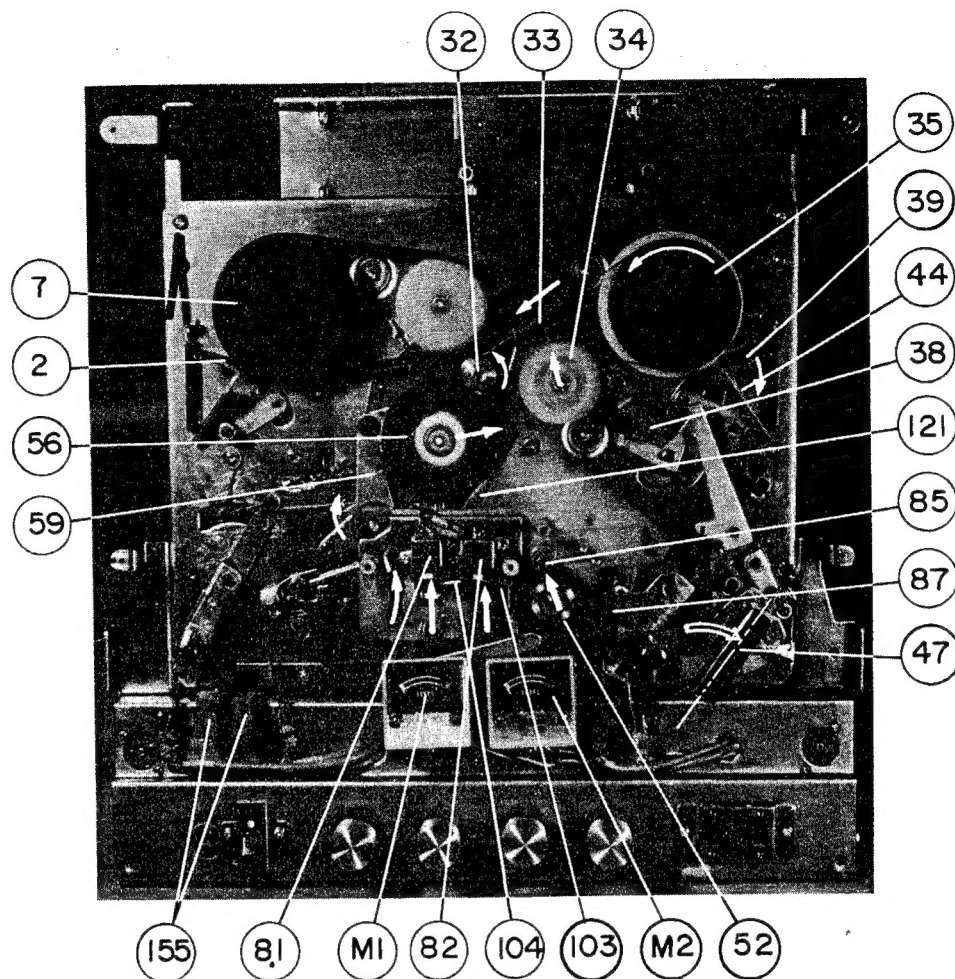

Figure 4
(1) FORWARD PLAY (Refer to Figure 4)
(2) RECORD (Refer to Figure 4)